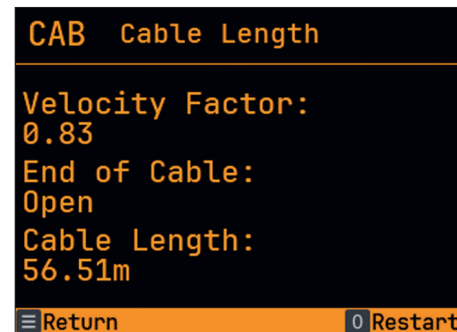

Figure 59: Display of the result of the *cable length* application
*mode* (TDR) as described above. A simpler alternative are the cable applications. To do this, the *Cable length* application is started when the cable is connected. After selecting cable type *H2007*, the display shown in Figure 59 appears at the end of the measurement.